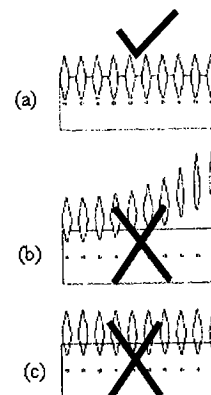

Fig. 48 Acceptable Flame only (a)
- d. With a protected gloved hand, fine tune the air shutter until a stable, mostly blue flame is observed through the flame observation hold and slots on each side of the burner box. Acceptable flames are shown in Fig. 48.